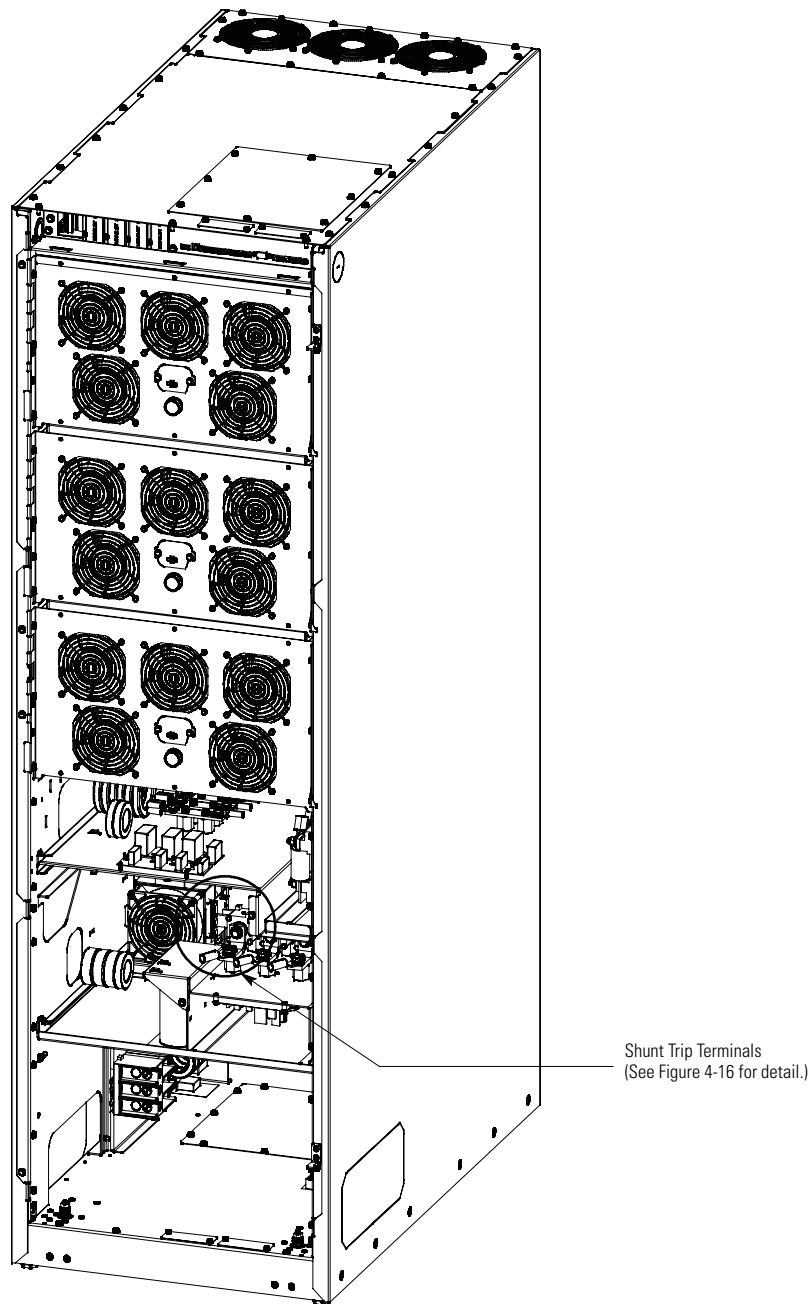
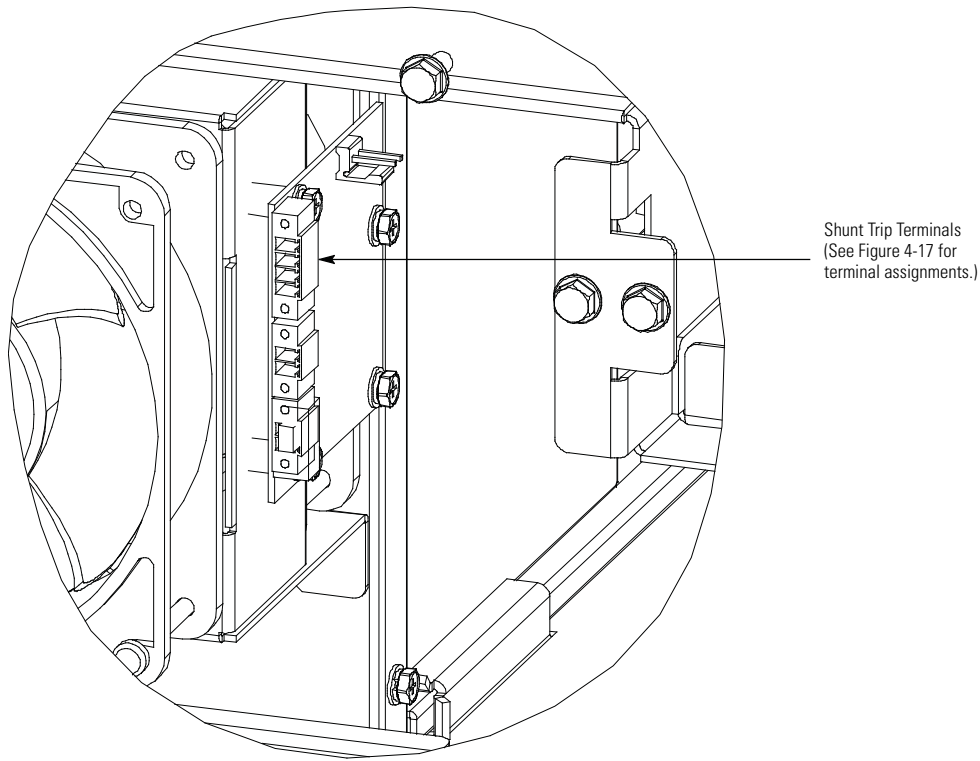

Figure 4-15. Battery Shunt Trip Locations
Figure 4-16. Battery Shunt Trip Terminal Detail
6. **Pass-through Wiring.** Route the battery shunt trip wiring from the battery cabinet through the bottom UPS inter-cabinet wiring access pass-through and static switch shelf bushing to the UPS battery shunt trip terminals. See Figure 4-6 for UPS wiring access information, and Figure 4-15 and Figure 4-16 for UPS terminal locations. Refer to the *Eaton 93PM Integrated Battery Cabinet Installation Manual-Large and Large High Rate* or the *Eaton 93PM Universal Integrated Battery Cabinet Installation Manual-Large and Large High Rate*, listed in paragraph 1.8, for battery cabinet wiring access information and instructions.
8. **Bottom Entry Wiring.** Route the battery shunt trip wiring from the battery cabinet or battery disconnect through the bottom of the UPS and static switch shelf bushing to the UPS battery shunt trip terminals. See Figure 4-4 for UPS wiring access information, and Figure 4-15 and Figure 4-16 for UPS terminal locations. Refer to the *Eaton 93PM Integrated Battery Cabinet Installation Manual-Large and Large High Rate* or the *Eaton 93PM Universal Integrated Battery Cabinet Installation Manual-Large and Large High Rate*, listed in paragraph 1.8, for battery cabinet wiring access information and instructions.
10. **Top Entry Wiring.** Route the battery shunt trip wiring from the battery cabinet or battery disconnect through the top of the UPS sidecar and the bottom UPS inter-cabinet wiring access pass-through and static switch shelf bushing to the UPS battery shunt trip terminals. See Figure 4-5 and Figure 4-6 for UPS wiring access information, and Figure 4-15 and Figure 4-16 for UPS terminal locations. Refer to the *Eaton 93PM Integrated Battery Cabinet Installation Manual-Large and Large High Rate* or the *Eaton 93PM Universal Integrated Battery Cabinet Installation Manual-Large and Large High Rate*, listed in paragraph 1.8, for battery cabinet wiring access information and instructions.